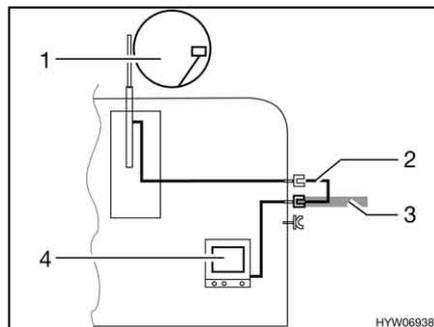

Fig. 176 TV inside the vehicle
- TV inside the vehicle (Fig. 176,4): Connection to roof antenna (Fig. 176,1) with connection cable (Fig. 176,2)
- TV inside the vehicle (Fig. 176,4): Connection to external antenna (Fig. 176,3)